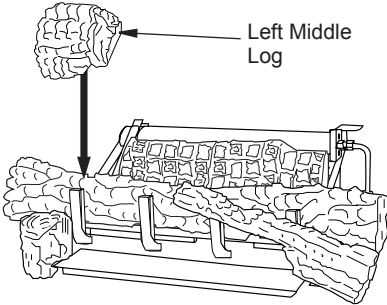

Figure 52 - Installing Left Middle Log
6. The left middle log has a groove on the bottom to sit on the chassis and has to sit on the tab on the back of the left front log as shown in Figure 52.